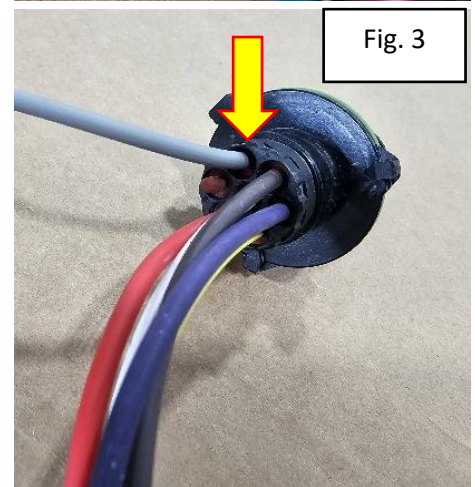

Fig. 3
3. Insert one of the pins from the resistor harness into pin 7. (Figure 3)
5. Insert the second pin from the resistor harness into pin 7 of the second connector. (Figure 3)